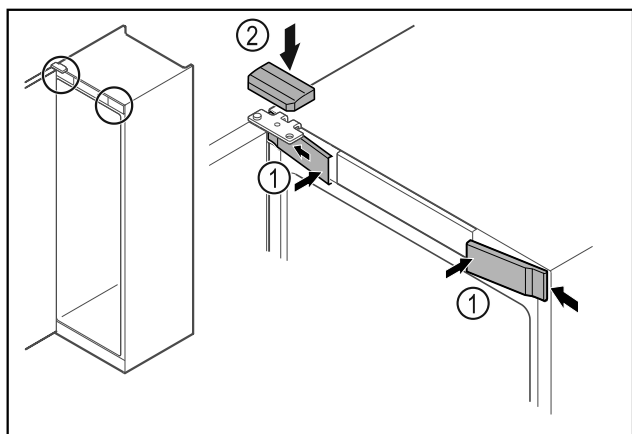

Fig. 58
- Hook in the front covers Fig. 58 (1) on the side and snap them into place.
- Snap on the top cover Fig. 58 (2) from above.